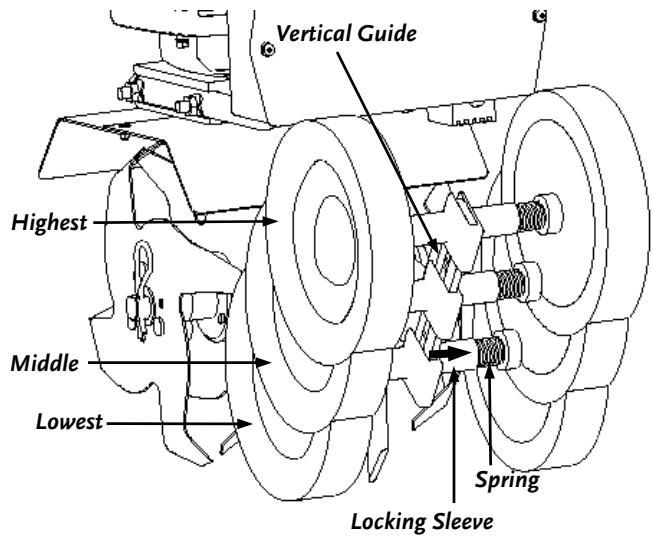

Figure 6
You can adjust the Wheels on the DR ROTO-HOG Mini Tiller to one (1) of three (3) positions (**Figure 6**). Use the lowest Wheel position for transporting the machine across a smooth level surface while the Engine is not running. Use the two (2) higher positions for tilling in soil and to help stabilize the unit when tilling at different depths.
1. Pull the Locking Sleeve (**Figure 6**) toward the Wheel against the Spring until it releases from one of the three (3) holes in the Vertical Guide (**Figure 6**).
2. Slide the Wheel Set up or down to the desired position, and then release the Locking Sleeve until it locks into one (1) of the three (3) Holes in the Vertical Guide (**Figure 6**).